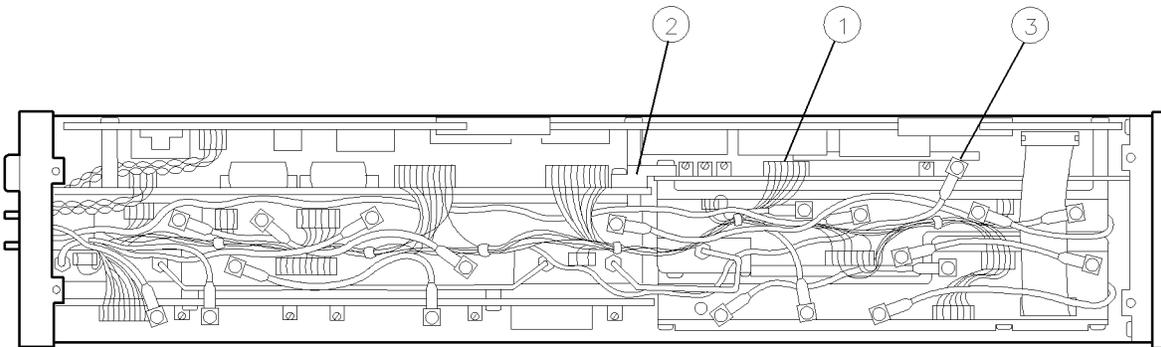

Figure 9-2. A2 Video Processor Removal/Replacement
2. Disconnect the A11 wiring harness ① from the A2 video processor. See Figure 9-2.
3. Remove the bracket and screws ② from the assembly. Carefully work the assembly out of its motherboard connector. When it is just out of the connector, carefully disconnect W6 ③.